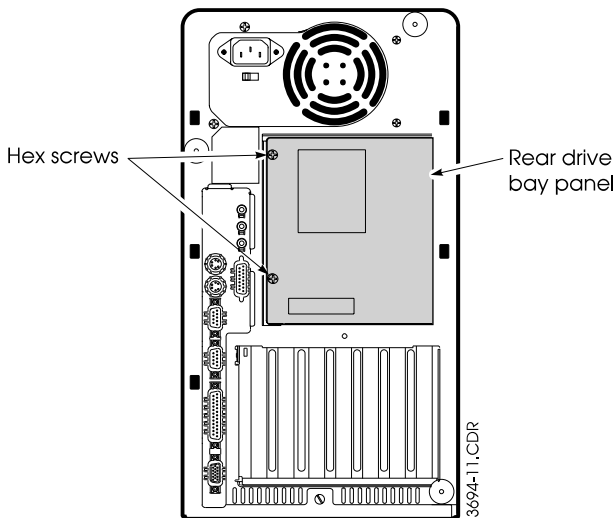

Figure 18. Removing the Rear Drive Bay Panel
1. Remove the two screws on the left edge of the rear drive bay panel (Figure 18).